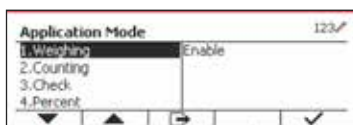

Figure 37
3. In the Application Mode menu, enter the Weighing submenu. (See Figure 37)